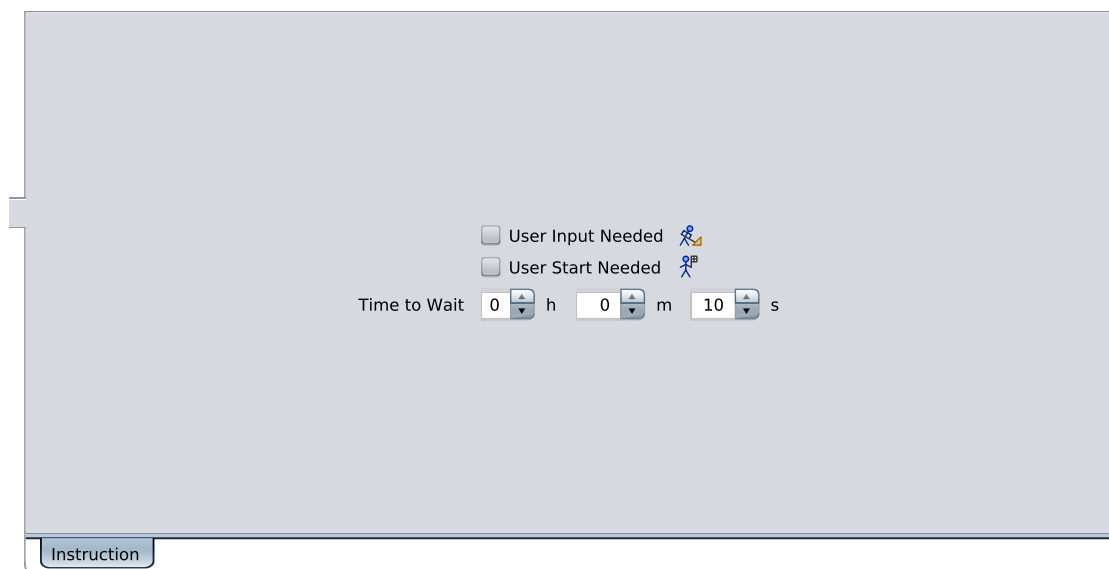
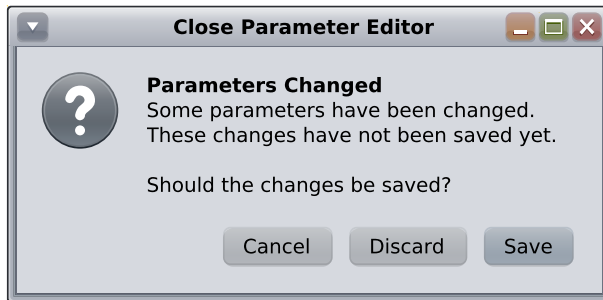

Figure 1.39: Pause Instruction Editor
Figure 1.40: Dialog Parameters Changed
- The editor (see [Figure 1.39 \[▶ 57\]](#)) for the selected pause instruction is opened, if no other instruction is currently edited. If another instruction is currently edited and has been modified, a dialog (see [Figure 1.40 \[▶ 58\]](#)) is displayed. The dialog allows to save or discard the modifications for the currently edited instruction or to cancel the attempt to edit the pause instruction. The following properties can be changed for a pause instruction: